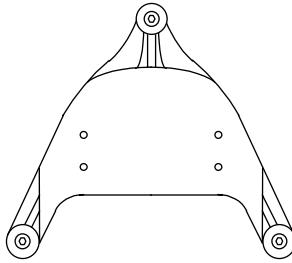
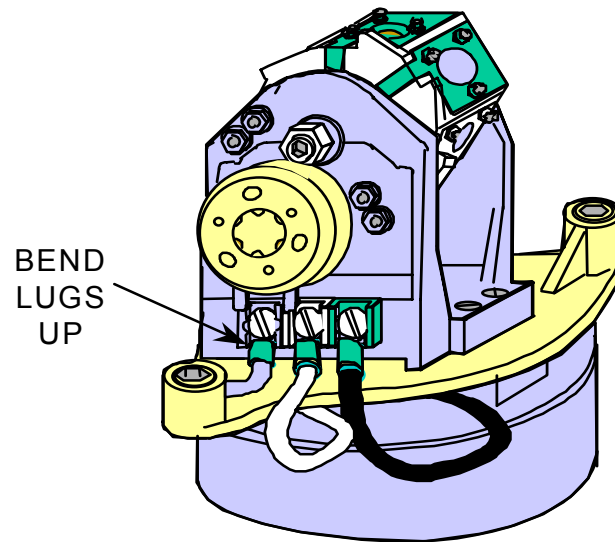
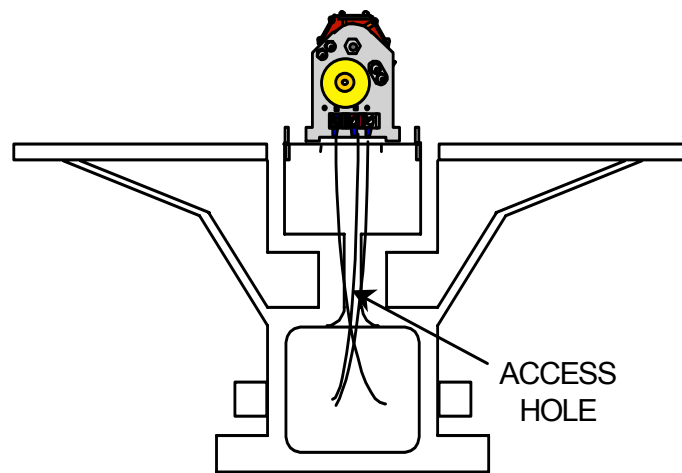

Figure 3-24
Figure 3-25
Figure 3-32
- (10) Looking down into the beacon, remove the three capscrews securing the lampchanger plate (Figure 3-24) to the flasher housing. Remove the lampchanger plate.
- (11) Wire the lampchanger with a WK-681 wiring kit. After securing the lugs, bend the lugs out 90 degrees from the terminals.
- (12) Orient the lampchanger on the Lampchanger Plate so that the terminal strip faces away from the opening in the plate, as shown in Figure 3-25.
- (13) If using a flasher, wire the lampchanger with a WK-681 wiring kit. Loop the wires from the lampchanger under the plate and connect to the flasher. Secure the flasher and lampchanger with four 10-32 screws, as shown in Figure 3-25.
- (14) Make up two wires, one black and one white each two feet long with lugs attached to **ONE** end. The wires should be 12 AWG with PVC or Teflon insulation.
- (15) Attach the black wire to the flasher (+) terminal and the white wire to the flasher (-) terminal.
- (16) Make sure the springs are still in place in the flasher housing (inside beacon).
- (17) Pass the two or three wires through the opening in the bottom of the flasher housing and pull the leads in the beacon base as the assembly is lowered, as shown in Figure 3-32.